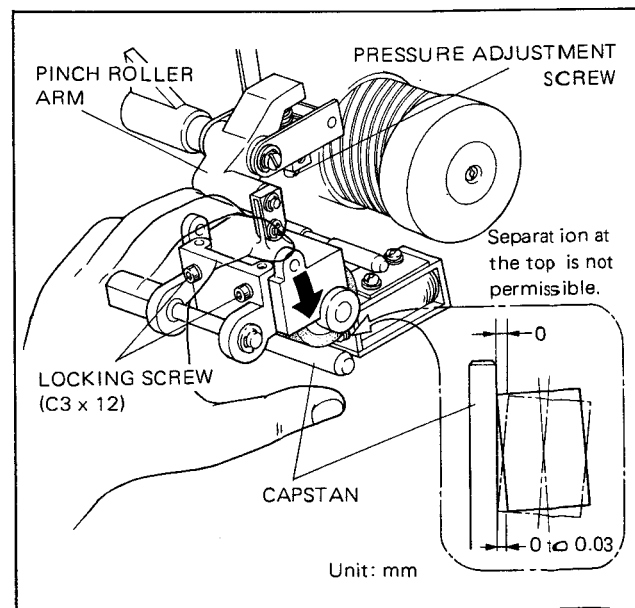

Fig. 3-53. Pinch Roller Slant Adjustment
4. Lightly push the pinch roller towards the capstan as shown in Fig. 3-53, and confirm that there is close contact or that the clearance at the bottom is 0.03 mm or less when the pinch roller just comes into contact with the capstan. If the clearance is larger, or if there is a clearance at the top, loosen the locking screw, and adjust the slant of the pinch roller.